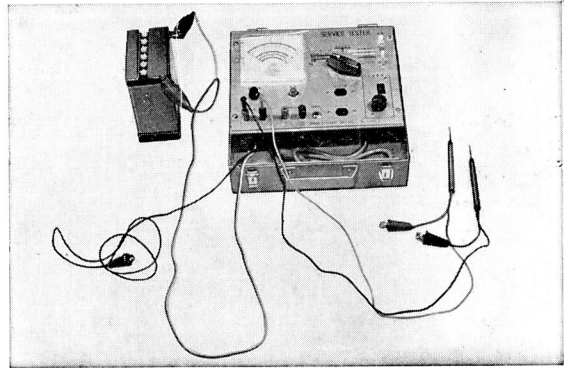

Fig. 5.91 Test lead wire connection
- (1) Connect red/white parallel cables, which come from the left side of the tester, to the battery (red is for positive (+) terminal and white is for negative (-) terminal).
- (2) Turn the switch to "Continuity" and the power source pilot lamp will light.
- (3) Next, connect test lead wire to terminal "X". (Fig. 5.91)